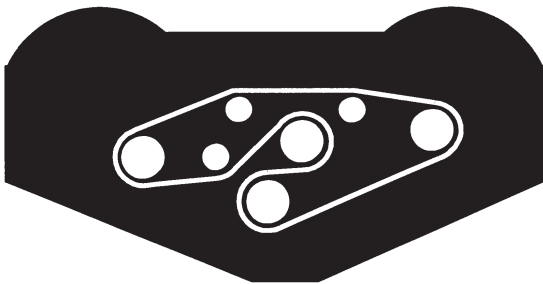

Figure 31
5. Route the new belt around the spindle pulleys and idler pulley assembly, as shown in Figure 31.